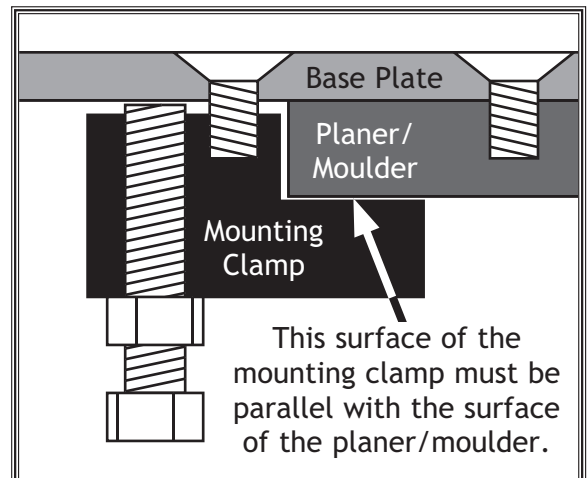

Figure 5. Mounting clamp attachment.
11. Adjust the flat head screw and the hex bolts in the mounting clamp until the mounting clamp is parallel with the planer/moulder surface (see **Figure 5**).